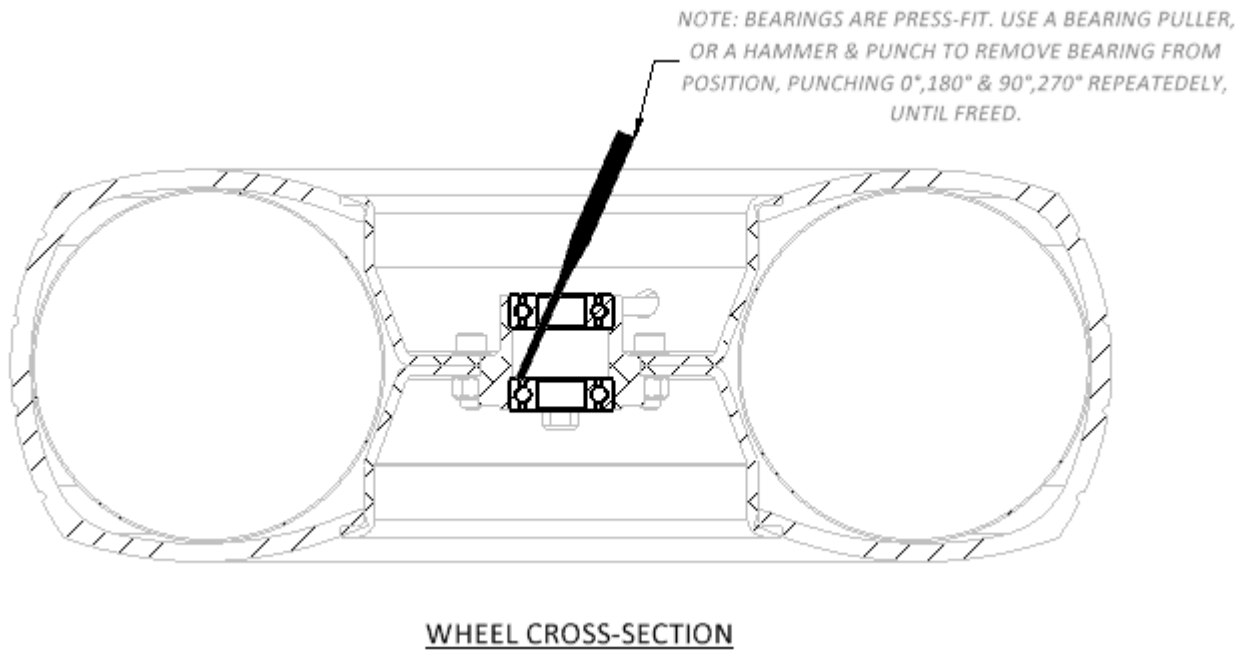

Figure 5.7.8.7 Nose wheel bearing removal.
(5) INSTALLATION
(6) BEARING REMOVAL AND REPLACEMENT
- b. Use either a bearing puller or punch and hammer to remove bearing. If a punch and hammer is used, alternate punching on each of the four shown positions in Figure 5.7.8.7. Avoid using more striking force than necessary.